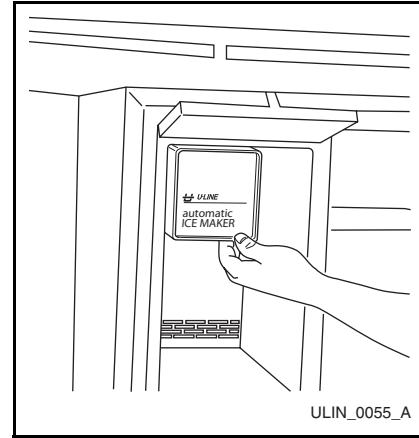

Figure 15
1. Remove the ice maker assembly cover (**Figure 15**).